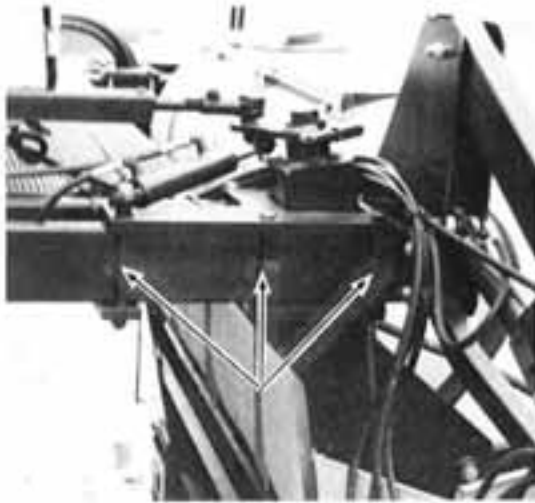

Figure 3
3. Loosen the six leg mounting bolts on both the front and rear legs on one side only, as both legs must be moved at the same time. Refer to Figures 3 and 4; Page 14. CAUTION: Loosen only enough to allow for free movement of the leg on the main frame. Do not remove the bolts under any condition.
9. Carefully tighten all leg mounting bolts to 120-foot pounds of torque, following tightening procedures that ensure equal torque on all mounting bolts. See Figures 3 and 4.